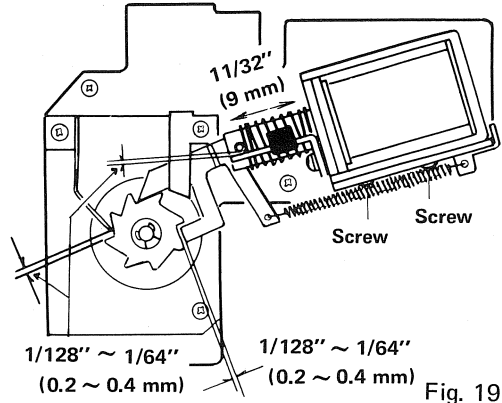

Fig. 19
2. Adjust the position of the stopper so that the clearance between the stopper and the spring pin of the iron core becomes from $1/128''$ to $1/64''$ (0.2 mm to 0.4 mm) (Fig. 19).
3. Secure the plunger with the two screws at the position where the clearance between the cam and the cam lever becomes from $1/128''$ to $1/64''$ (0.2 to 0.4 mm) as shown in Fig. 19.